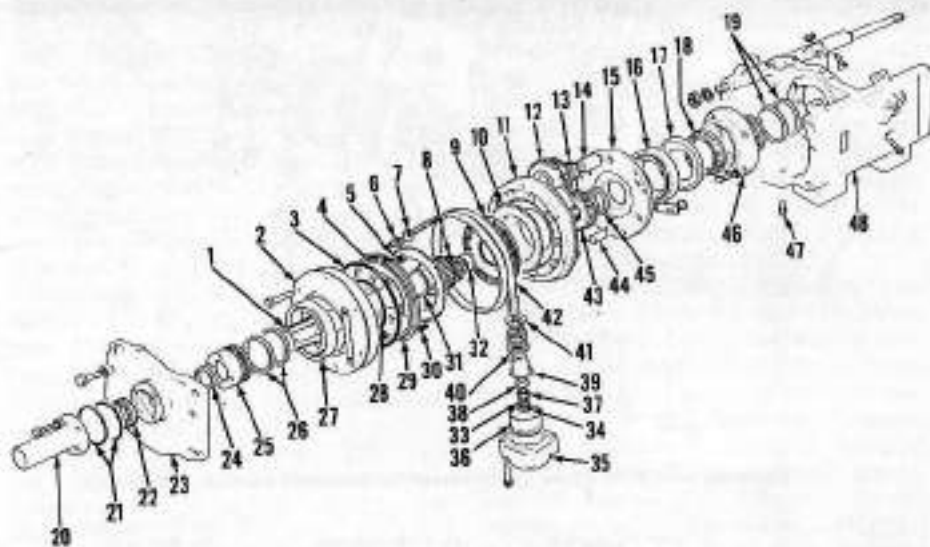
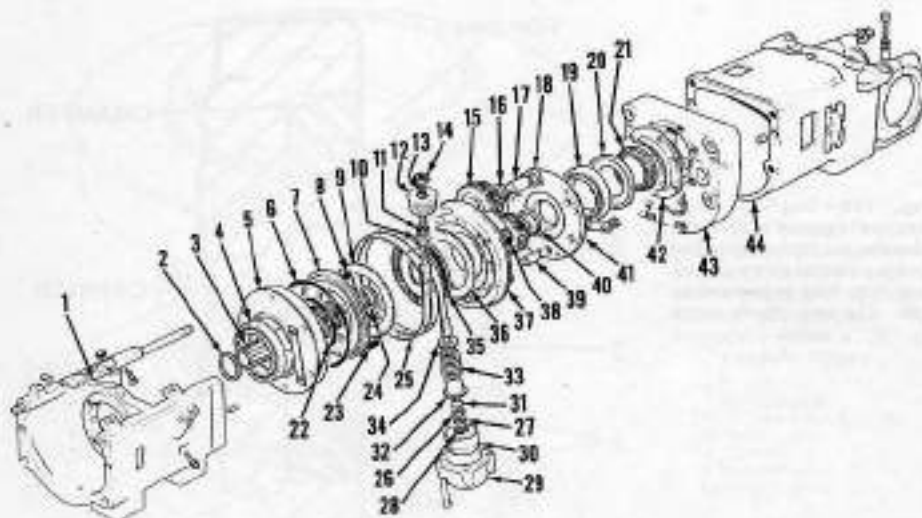
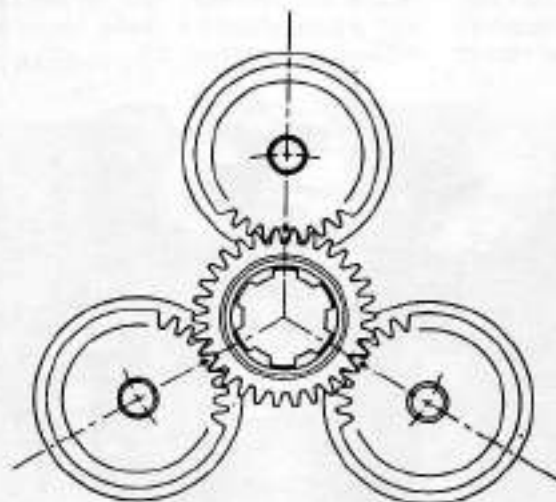
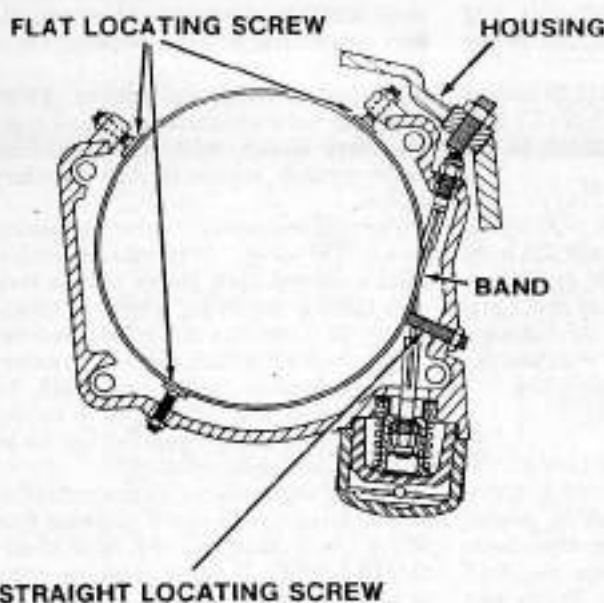

Fig. 162—Exploded view of front planetary assembly of power shift transmission. See Fig. 163 for view of rear planetary assembly.
Fig. 163—Exploded view of rear planetary assembly of power shift transmission. See Fig. 162 for view of front planetary assembly.
Fig. 164—Planet gears must be timed as shown with punch marked tooth of each gear pointing to sun gear.
Fig. 168—View of rear planetary brake band and housing showing location of the four locating screws. Front assembly is similar with only three locating screws.
**289. REMOVE PLANETARY ASSEMBLIES.** Place transmission in a suitable support stand and remove support sleeve (20—Fig. 162), "O" rings (21) and end plate (23). Disconnect brake line from front planetary brake cylinder and remove brake cylinder (35). Loosen all front brake band locating screws (47) and remove adjusting nut (6) and washer (7). Remove snap ring (34), washer (33) and nut (37). Remove washer (38), sleeve (39), spring (40) and seat (41). Remove input shaft (1). Remove planetary brake band (42) by withdrawing fixed end first, piston end last. Carefully remove front planetary assembly. Remove hydraulic line for planetary brake cylinder from center carrier (48). Remove abutment plate (17) and free wheel (18).
Loosen all locating screws for rear planetary brake bands. Disconnect brake line and remove cylinder (29—Fig. 163) and piston (30). Remove snap ring (28), washer (27) and nut (26). Remove washer (31), sleeve (32), spring (33) and seat (34). Carefully remove rear planetary assembly from center carrier
(1). Remove planetary brake band (25) by withdrawing fixed end first, piston end last. Remove hydraulic line for planetary brake cylinder from center carrier (1). Remove housing (46—Fig. 162) from center carrier.
**290. FRONT PLANETARY OVERHAUL.** Thickness of backing plate (10—Fig. 162) is chosen by manufacturer to match piston (29). **DO NOT** interchange backing plates or clutch plates from another clutch assembly. If renewing backing plate (10) make certain new plate is same thickness as old plate.
**291. DISASSEMBLY.** Mark clutch cylinder (2—Fig. 162), carrier (11) and end cover (15) so they may be reassembled to original positions. Bend lock plates away from bolt heads, remove bolts and separate planetary halves. Remove inner and outer springs (4 and 30). Keep clutch plates in order and together, then remove. Separate carrier (11) from end cover (15). Remove sun gear (43) and noting location for reassembly, remove planetary gears (12) and bearings (13). Mark bearing pin (14) locations for reassembly and remove pins. Remove thrust washer (45) and renew bearing (16) and dowels (44) as necessary.
Inner springs (4—Fig. 162) should conform to the following specifications:
Outer spring (30—Fig. 162) should conform to the following specifications:
**293. REASSEMBLY.** Install ball bearing (27—Fig. 162) on cylinder (2). Lubricate "O" rings (3 and 28) and install on piston (29). Carefully install piston (29) in cylinder (2). Some force may be required. Install inner springs (4) using thick grease to hold springs in position during assembly.
Install bearing pins (14) in their original positions and install bearings (13) on each pin (14). Install planetary gears on their original pins and bearings with timing marks pointing toward center. See Fig. 164. Install sun gear (43—Fig. 162) aligning timing marks during installation. See Fig. 164. Install bearing (16—Fig. 162) on end cover (15). Install thrust washer, with oil groove toward gear side, in end cover and install cover on planetary gears aligning previously made alignment marks. Install lock plates and bolts. Tighten bolts to 27 N·m (20 ft.-lbs.) torque and secure with lock plates.
**294. CENTER CARRIER.** Place bearing carrier (46—Fig. 162) on a clean work surface and remove thrust washer (2—Fig. 163) and sealing rings (19—Fig.
162). Install thrust washer in carrier with oil groove up and install sealing rings in grooves as shown in Fig. 165. When reinstalling bearing carrier (46-Fig. 162) in center carrier (48) make certain lubrication holes are in alignment. See Fig. 166. Tighten bearing carrier mounting bolts to 40 N·m (30 ft.-lbs.) torque and lubricate sealing rings with clean transmission fluid.
**295. REAR PLANETARY OVERHAUL.** Thickness of backing plate (36-Fig. 163) is chosen by manufacturer to match piston (29). **DO NOT** interchange backing plates or clutch plates from another clutch assembly. If renewing backing plate (36) make certain new plate is same thickness as old plate.
**296. DISASSEMBLY.** Mark clutch cylinder (5-Fig. 163), carrier (37) and end cover (41) so they may be reassembled to their original positions. Bend lock plates away from bolt heads, remove bolts and separate planetary halves. Remove inner and outer springs (8 and 23). Lift input shaft (3) and clutch plates (9 and 35) from carrier (37). Keep clutch plates in order and together and remove from input shaft. Remove backing plate (36) from carrier (37). Turn assembly over and remove lock plates, bolts and end cover (41). Note position of individual planetary gears (15) for reassembly and remove gears. Remove thrust washer (24) from sun gear (40). Remove bearings (16) and washers (18) from planetary gears. Remove piston (7) from cylinder (5) and remove "O" rings (6 and 22) from cylinder (5). Inspect bearings and renew as necessary. If bearing pins (17) or dowels (39) are removed, make certain they are reinstalled in their original positions. Remove thrust washer (40) from end cover (41).
**298. REASSEMBLY.** Install bearing (4-Fig. 163) on cylinder (5) and lubricate "O" rings (6 and 22) and install on piston (7). Carefully install piston (7) in cylinder (5). Some force may be required. Install inner springs (8) using thick grease to hold springs in position during assembly.
timing marks pointing toward center. See Fig. 164. Install thrust washer (24-Fig. 163) in sun gear (38) with oil groove away from gear. Install sun gear in planetary gears aligning timing marks during installation. See Fig. 164. Sun gear is installed with thrust washer (24-Fig. 163) toward carrier (37). Install bearing (19) on end cover (41) and install thrust washer (40) in end cover (41) toward carrier (37). Tighten bolts to 40 N·m (30 ft.-lbs.) torque and secure with lock plates. Install input shaft (3) in planetary assembly.
Install outer clutch springs (23-Fig. 163). Align previously made alignment marks and install cylinder (5) on carrier
**299. REINSTALLATION OF PLANETARY ASSEMBLIES.** Make certain the three locating screws for front bands and the four locating screws for rear band are in place in center carrier. See Fig. 168. Note free wheel assembly (21-Fig. 163) is installed with wide edge toward bearing carrier (42) and make certain thrust washer (31-Fig. 162), bushing (32) and seal (8) are in front input shaft (1).
Install bushing (24-Fig. 162) in support sleeve (25), apply gasket sealer to support sleeve and front end plate mating surface and install support sleeve. Tighten bolts to 20 N·m (15 ft.-lbs.) torque. Install sealing washers (26) as shown in Fig. 165. Install oil seal (22) in front end plate (23). Front end plate bolt is tightened to 20 N·m (15 ft.-lbs.) torque and support tube bolt is tightened to 12 N·m (9 ft.-lbs.) torque.
**300. PLANETARY BRAKE SPRING ADJUSTMENT.** Check front (40—Fig. 162) and rear (33—Fig. 163) planetary brake springs against the following specifications before adjusting planetary brake bands.